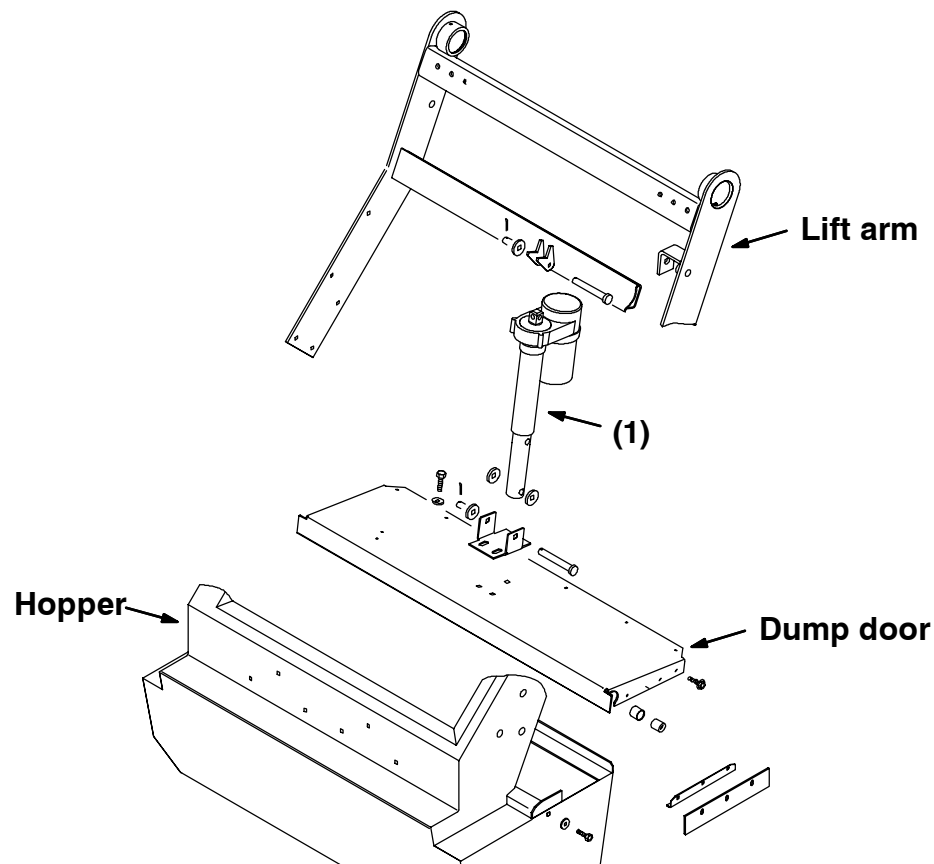

FIG. 4 - Dump Door Actuator
(Refer to FIG. 4 and 5)
6. Remove the clevis pin from the tube end of the dump door actuator. (Refer to FIG. 4 and 5)
7. Remove the hex screw from the motor end of the dump door actuator. (Refer to FIG. 4 and 5)
8. Remove the old dump door actuator from the hopper. (Refer to FIG. 4 and 5)
9. Position the new actuator (1) on the back of the hopper. The actuator motor end points to the top of the hopper. Make sure the actuator is in the extended position.
10. Install the hex bolt in the motor end of the dump door actuator. (Refer to FIG. 4 and 5)
12. Reconnect the dump door actuator to the hopper harness. (Refer to FIG. 4 and 5)